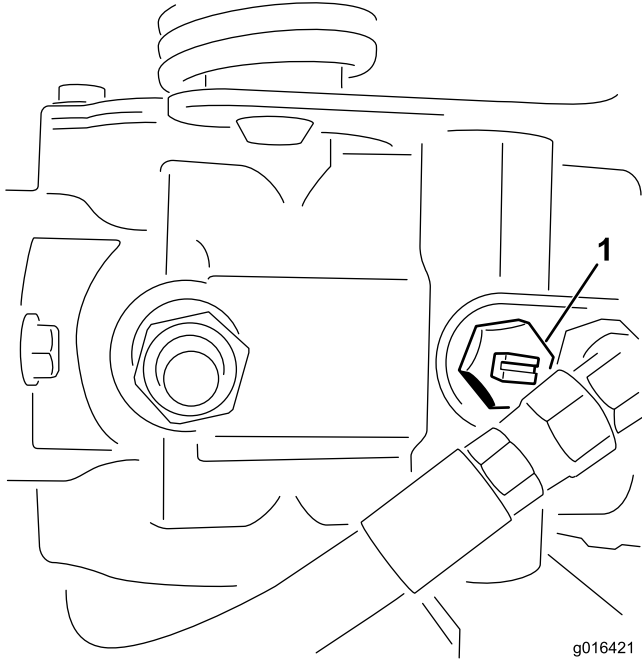

Figure 33
1. Locate the bypass valve on the pump and rotate it so that the slot is vertical (Figure 33).
2. Before starting the engine, close the bypass valve by rotating it so that the slot is horizontal (Figure 33).